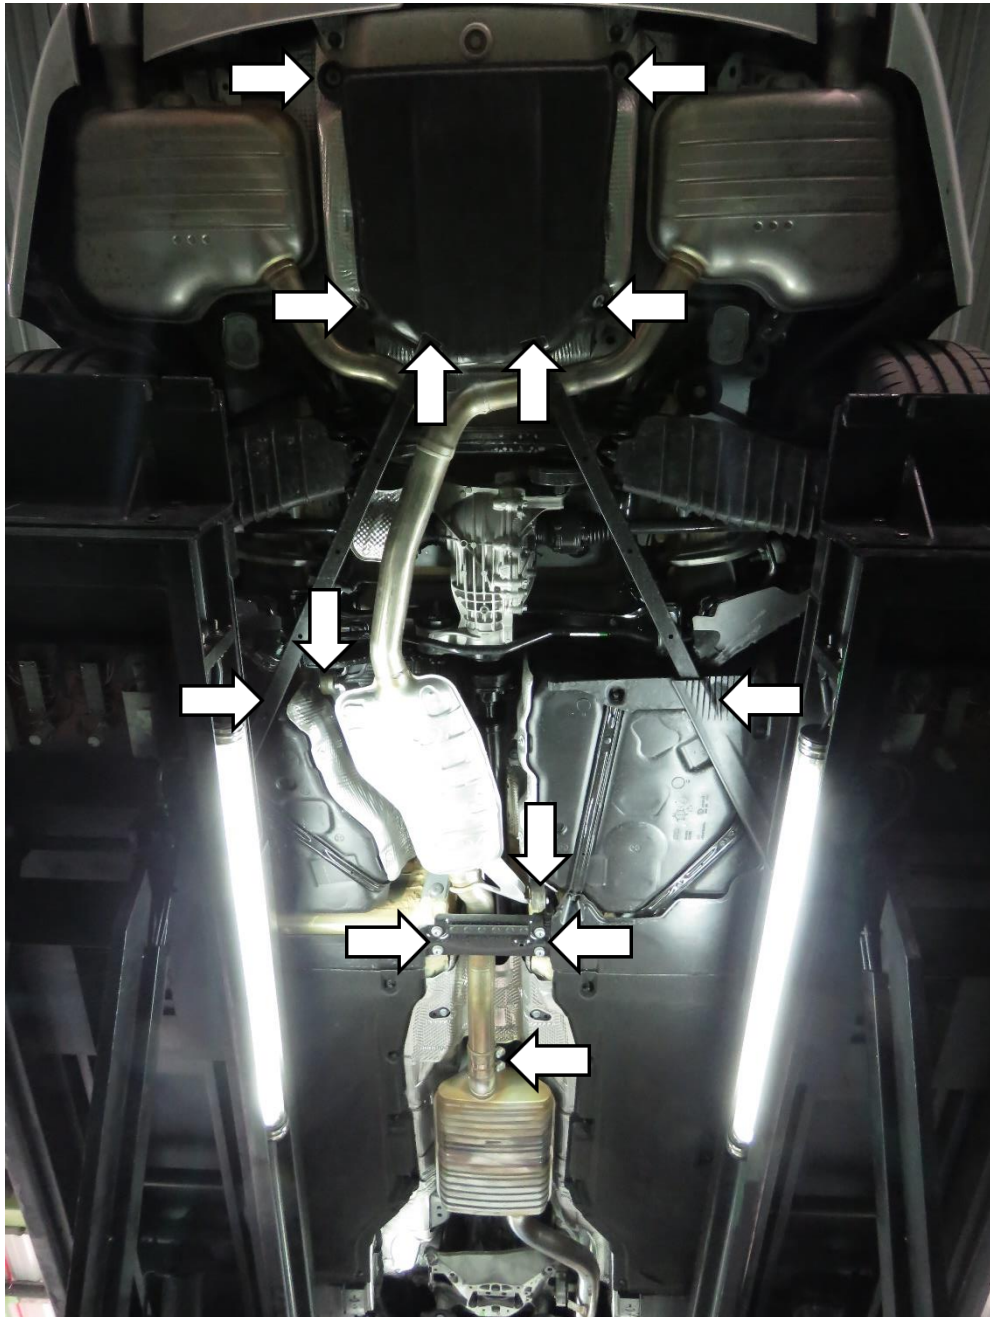

Figure 2
2. remove bottem, middel and back side of chassis drawbar (Figure 2).